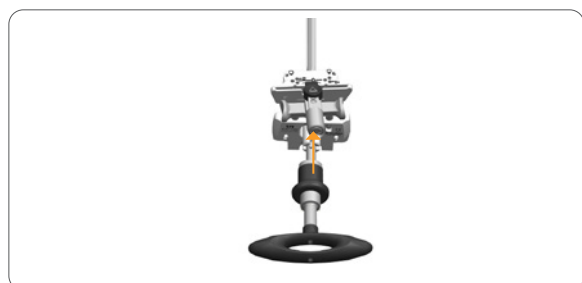

Figure 69
3. Attach the Short IM rod to the T-handle and insert through the alignment assembly (**Figure 69**). IM rod will lock into the alignment assembly in one of four places.